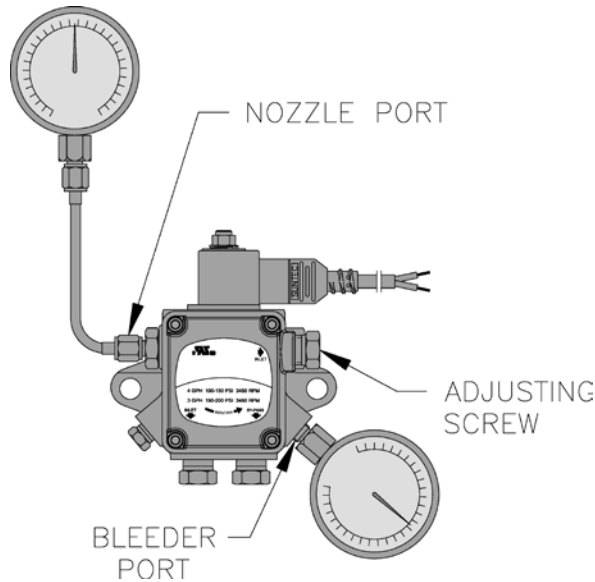

Figure 25: Adjusting Fuel Pump Pressure
- When checking a fuel unit's operating pressure, a reliable pressure gauge may be installed in either the bleeder port or the nozzle port. For Beckett burner refer to Figure 25. Refer to Figure 9 for Riello burner.